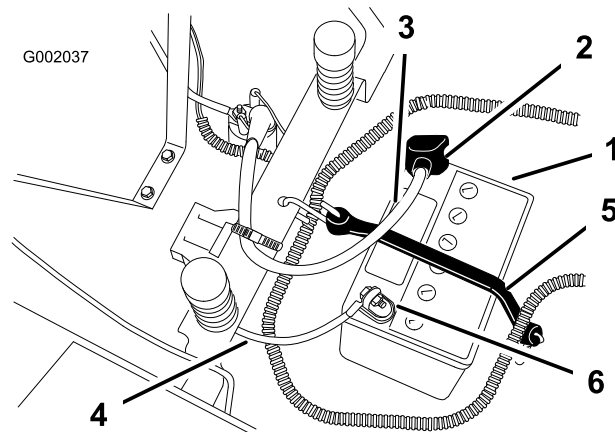

Figure 33
4. Disconnect the negative (black) ground cable from the battery post (Figure 33).
5. Slide the rubber cover up the positive (red) cable. Disconnect the positive (red) cable from the battery post (Figure 33).
6. Remove the battery hold-down (Figure 33) and lift the battery from the battery tray.